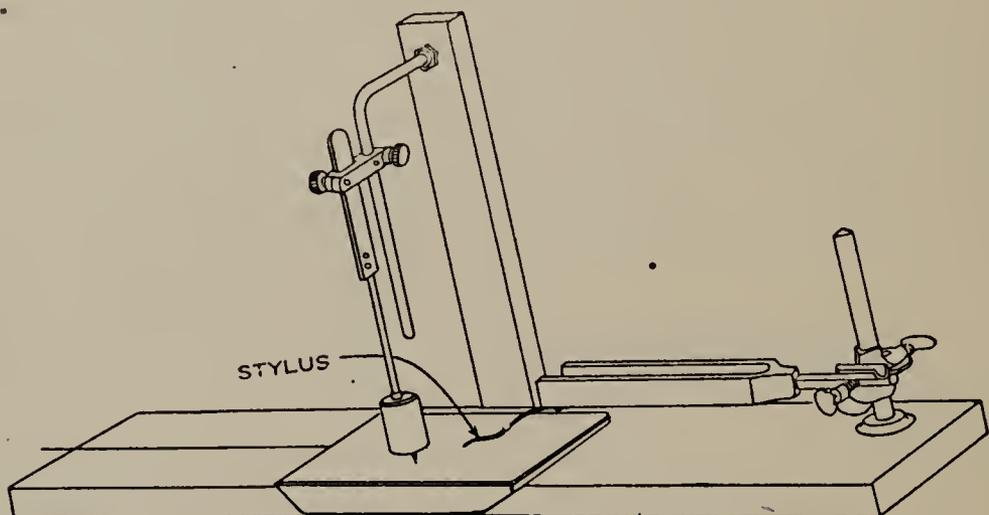

FIG. 112.
The pendulum (Fig. 112) should be adjusted to beat half seconds. The pendulum is set swinging, then the fork struck with a wooden mallet and the plate which has been prepared by coating it with a solution of whiting and alcohol is drawn quickly under the pendulum so that the stylus on the pendulum and the one on the fork both mark tracings on the glass plate.
*Materials Required.*—Apparatus as shown in Fig. 112.